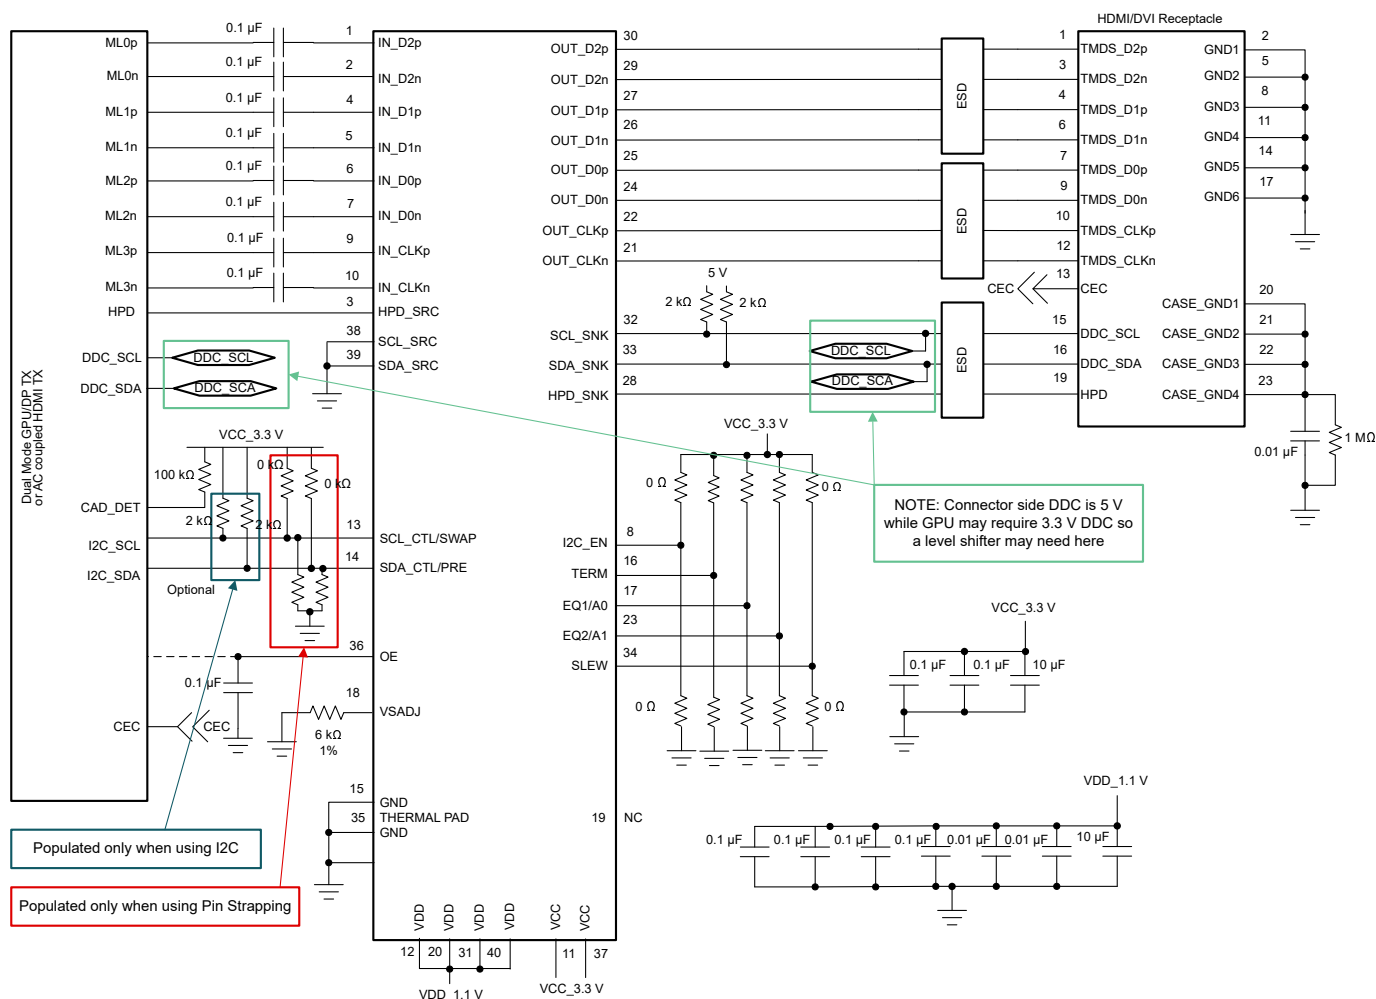

図 8-1. TDP158 in Source Side Application
図 8-1 shows a schematic representation of what is considered a standard implementation.
- Use the typical application 図 8-1 for information on control pin resistors.
- See schematics in 図 8-1 on recommended decouple caps from V_{CC} pins to ground.